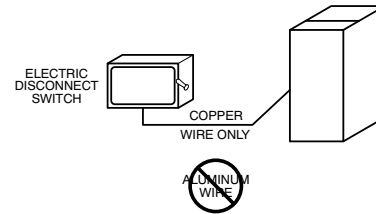

Fig. 33 – Field-Supplied External Electrical Box on Furnace Casing A190279
Do not connect aluminum wire between disconnect switch and furnace. Use only copper wire. See Fig. 33.
1. Drill two (2) 1/8-in. (3 mm) pilot holes through the dimples in the furnace casing near the 7/8-in. knockout or plug on the side of the casing. Do not remove the knockout or plug in the side of the casing.
9. Connect field power and neutral leads to furnace power leads inside the external electrical box as shown in Fig. 33.